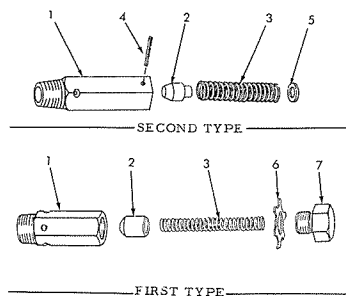

Fig. 7 — Oil Pressure Relief Valve Assembly (T-13181)
- j. Disassemble and inspect the pressure relief valve. Piston Fig. 7 (2) must slide smoothly